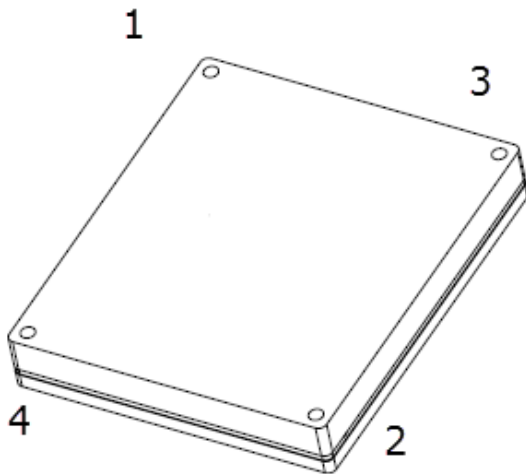

Figure 3-8. Mounting Screw Sequence
5. Each mounting M3 screw should be attached loosely in the sequence shown in Figure 3-8. The tightening sequence should be followed for two cycles. On the last tightening sequence, the screws should be fully torqued.